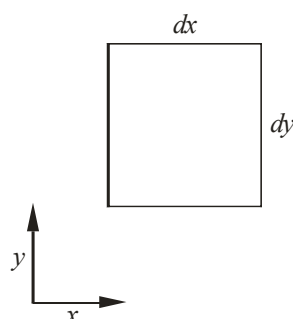

Figure 1
- Consider an elemental control volume of fluid, with dimensions dx and dy and unit depth, as shown in Figure 1 below. For the flow field given above, evaluate all the shear stress components acting on this elemental area, and indicate their direction (if applicable) on a sketch of the elemental area.